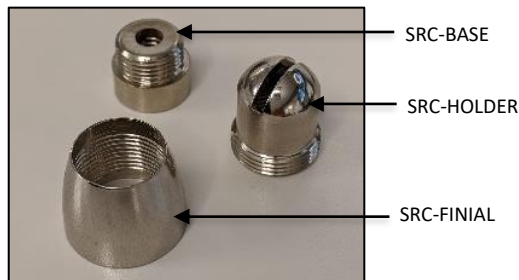

FIG. 12 - SLIP RING COUPLER (1)
9. Remove STRAIN RELIEF placed around the CORD in the CANOPY. Dis-assemble the SLIP RING COUPLER (1) into three components SRC-BASE, SRC-HOLDER and SRC-FINIAL as shown below in FIG.12.